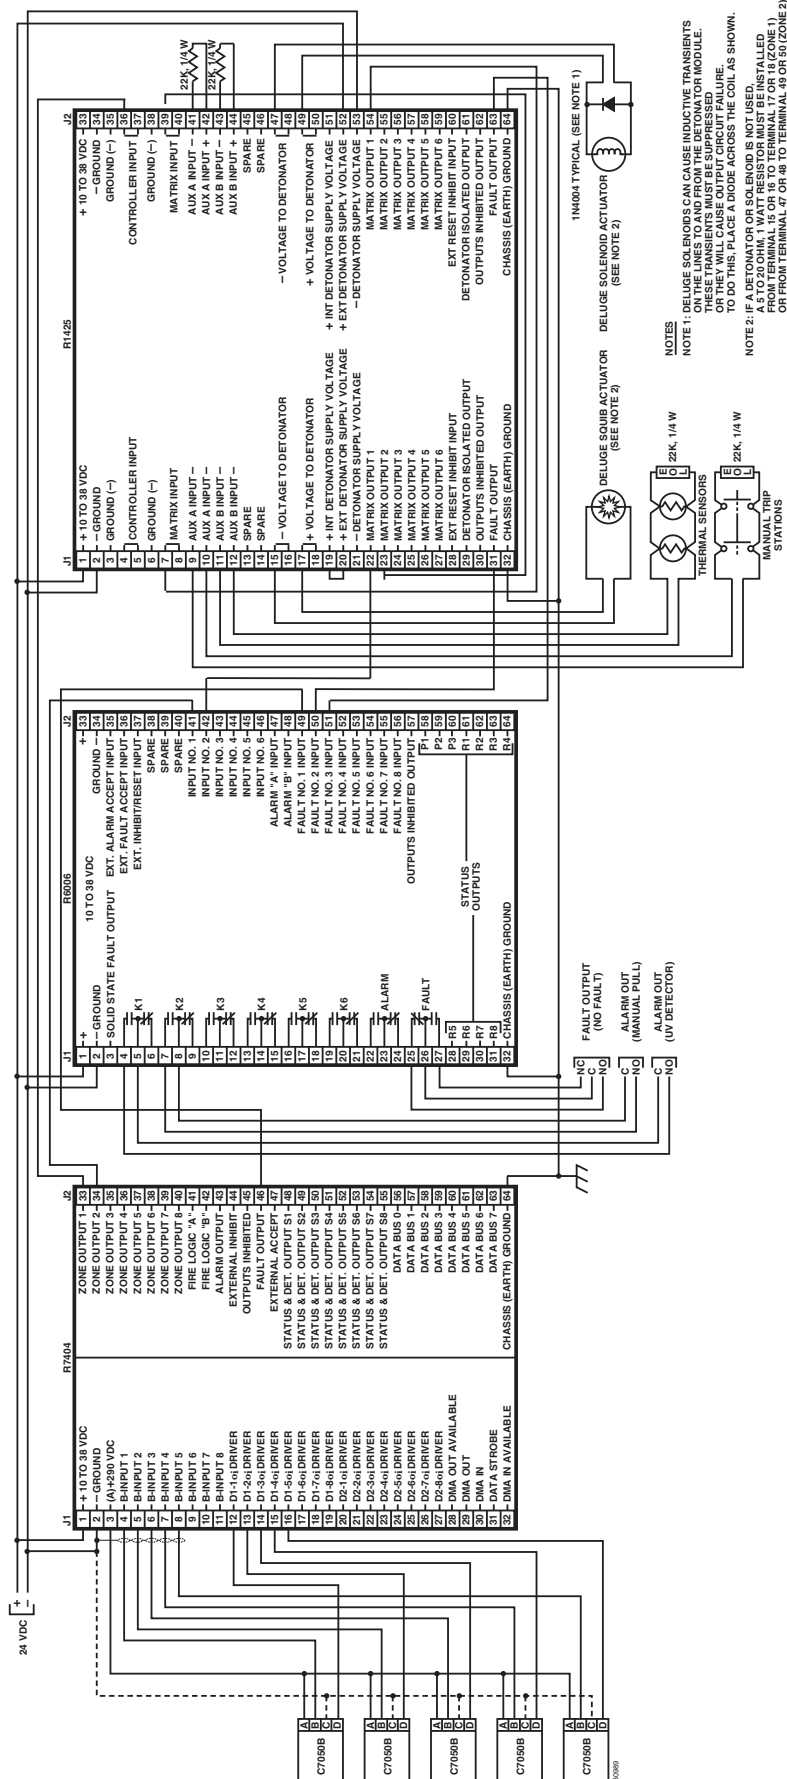

Figure 10—Ultraviolet Flame Detection System with R1425 Detonator Module
Deluge solenoids can cause inductive transients on the lines to and from the detonator module. These transients must be suppressed or they will cause output circuit failure. See Figures 10 and 11 for detailed information.
When an external power supply is used (required when a solenoid or more than one squib is used), it is connected to terminal 20 (positive external detonator supply voltage) and terminal 21 (negative detonator supply voltage). The jumper between terminal 19 and terminal 20 must not be installed for this application. An example of this is shown in Figure 10 on the J2 (Zone 2) side of the R1425. Note that external power is connected to J2-52 (+) and J2-53 (–) and that the jumper between J2- 51 and J2-52 has been removed.
Following are more detailed examples of systems illustrating the actual wiring. Figure 10 is an ultraviolet (UV) fire detection system with a detonator. Figure 11 is a high speed infrared (IR) fire detection system with a detonator.